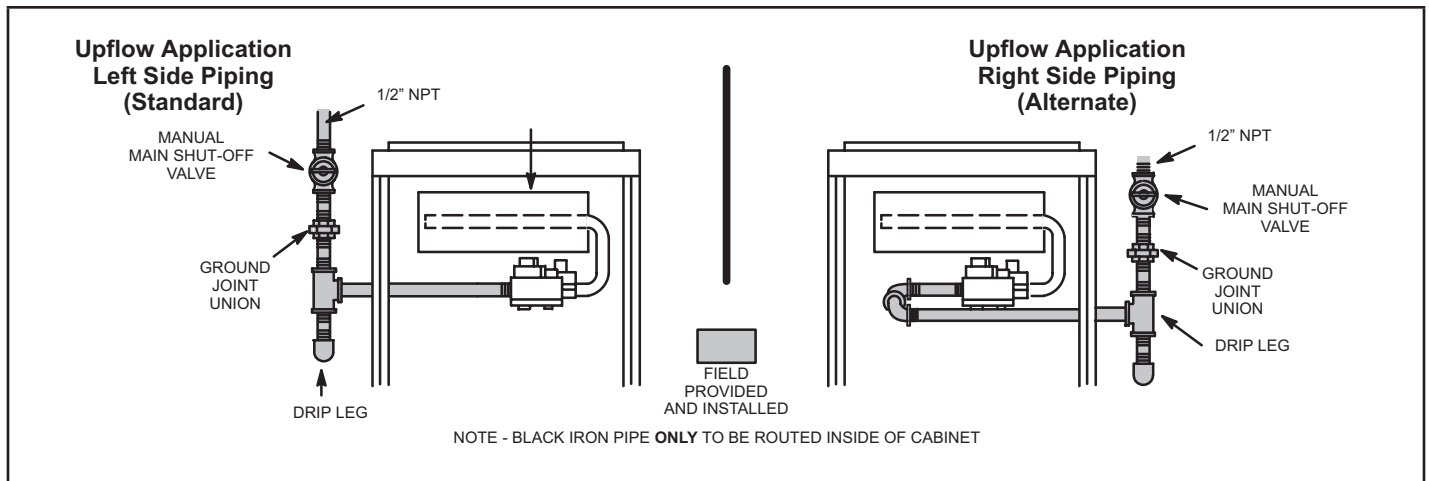
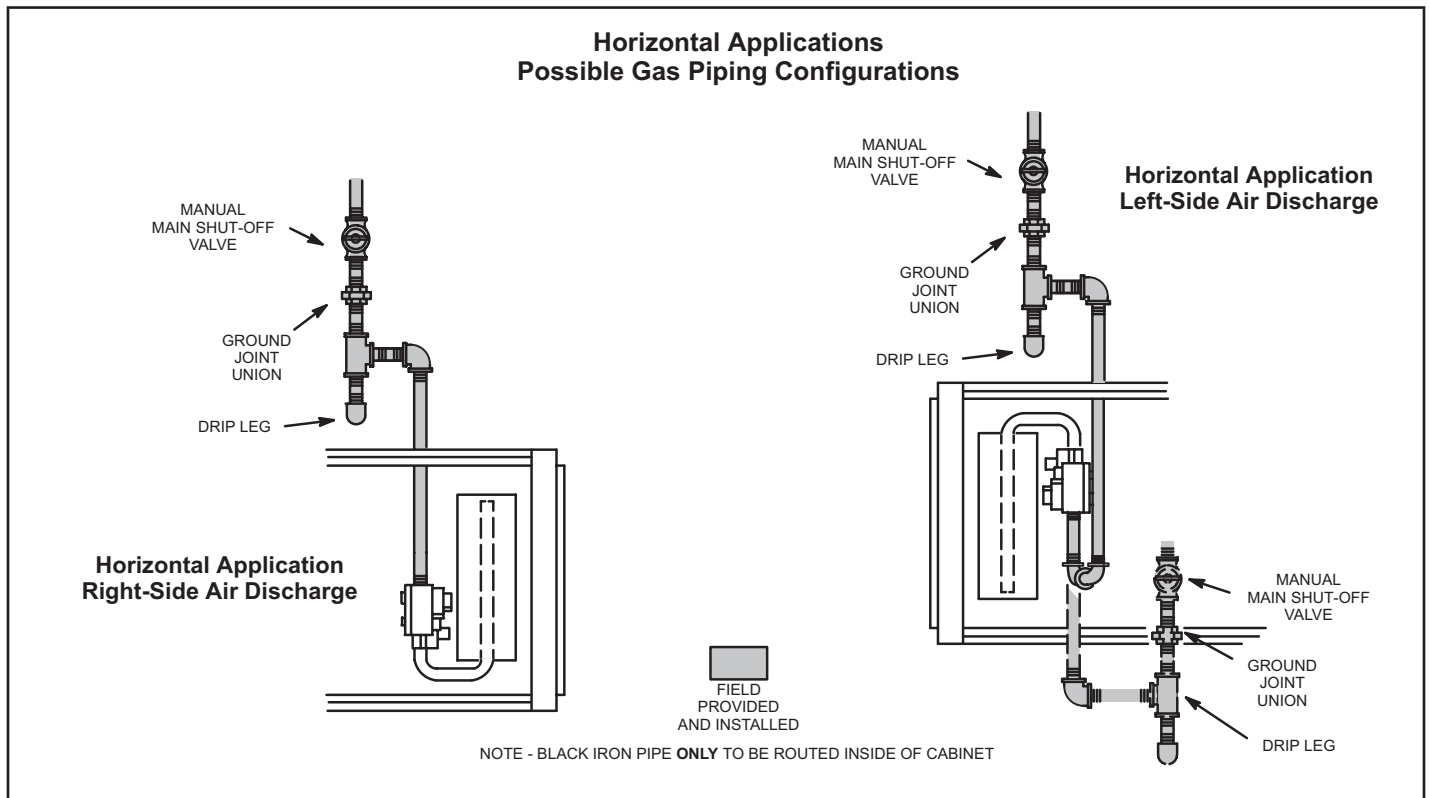

Figure 56
Figure 57
- 3 - Gas piping must not run in or through air ducts, clothes chutes, chimneys or gas vents, dumb waiters or elevator shafts. Center gas line through piping hole. Gas line should not touch side of unit. See Figure 56 and Figure 57.